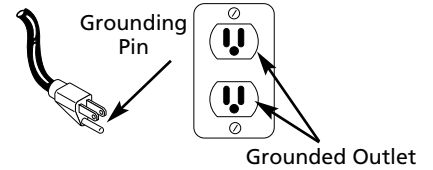

Figure 3 - Grounding Method
3. This product is for use on a nominal 120 volt circuit and has a grounding plug that looks like the plug illustrated in Figure 3. Make sure the product is connected to an outlet having the same configuration as the plug. This product must be grounded. In the event of an electrical short circuit, grounding reduces risk of electrical shock by providing an escape wire for electric current. This product is equipped with a cord having a grounding wire with an appropriate grounding plug.